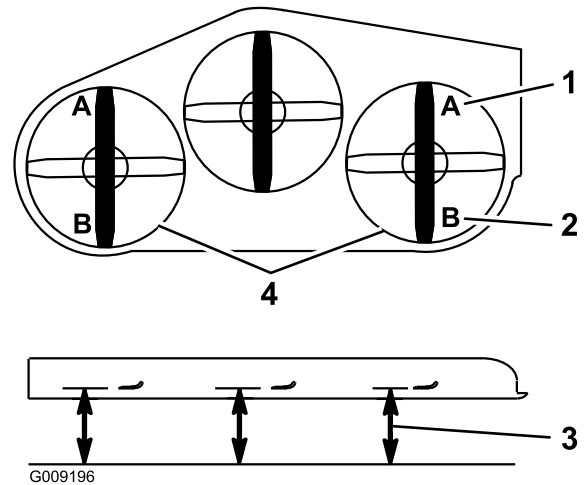

Figure 92
9. On both sides of the deck, measure from the level surface to the front tip of the blade (Position A) as shown in Figure 92.
15. On both sides of the deck, measure from the level surface to the back tip of the blade (position B) as shown in Figure 92.